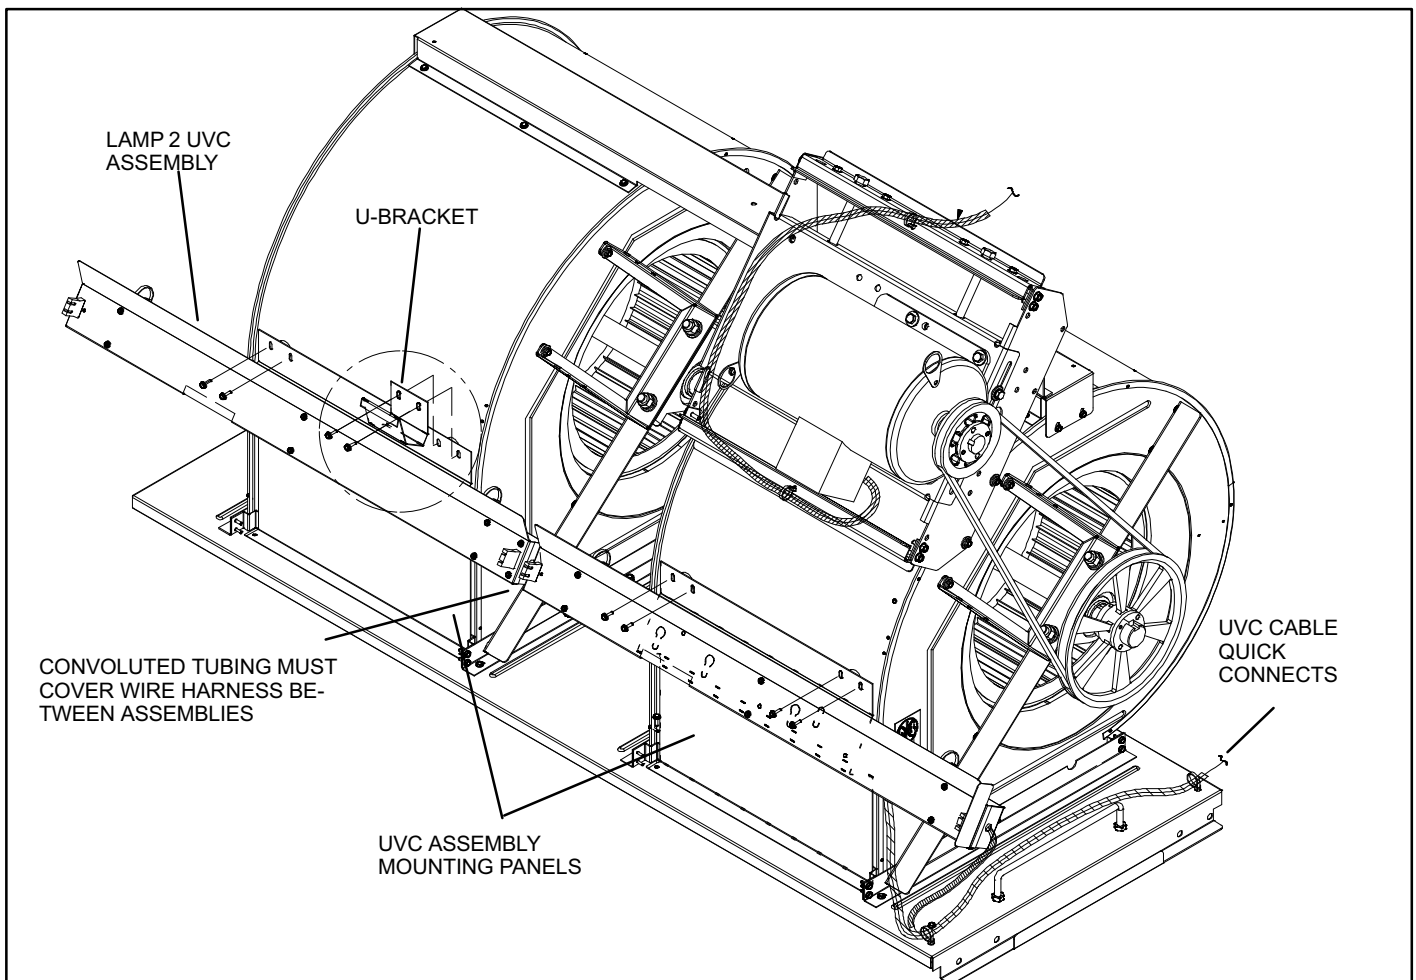

Figure 3. Disconnect Cable Quick Connects
3. Disconnect the UVC cable quick connects (pink/yellow) located at the front right of the blower assembly (see figure 3).
7. Lamp 2 (see figures 3 and 7):